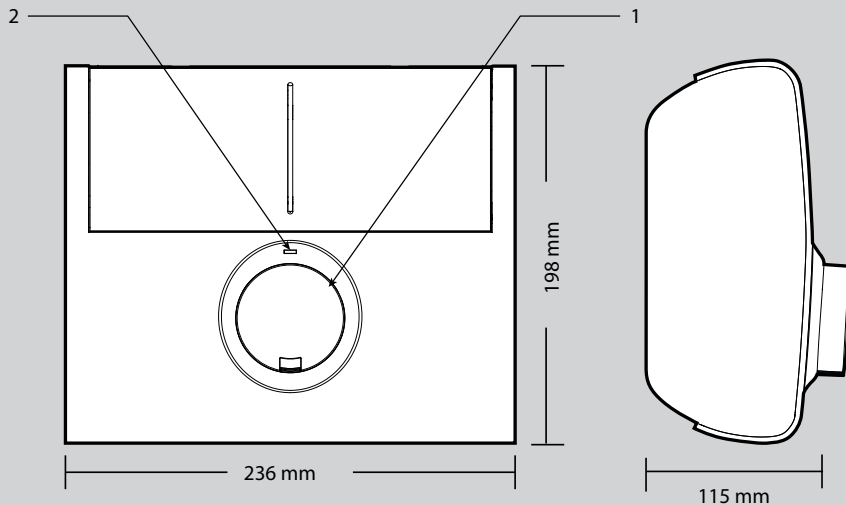

Fig 3
| <ul style="list-style-type: none">1. Temperature Control knob (Fig3)2. Power light (Fig3)3. Cable entry rubber seal4. ELCB5. Terminal block (Earth wire)6. Fixing hole (2NOS.)7. Flow switch set | <ul style="list-style-type: none">8. Inlet (cold water)9. Outlet (hot water)10. Copper tank11. Thermostat12. PCB control power selection13. Connector to PCB Control (Cover) |
2. Adjust the power to the desired level using the knob on the front cover of the unit (fig 3 no. 1).